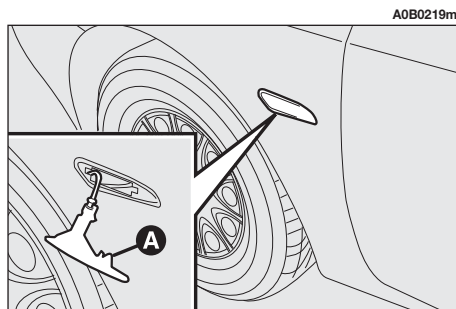
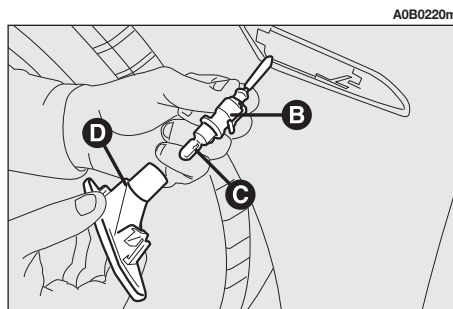

fig. 38
fig. 39
- Push the transparent cover towards the rear of the car to compress the tab (**A**-fig. 38). Release the front part and remove the unit.
- Turn the bulb holder counter-clockwise (**B**-fig. 39) and remove it from the transparent cover (**D**-fig. 39).
- Withdraw the bulb (**C**-fig. 39) which is of the pressure-fitted type and replace it.
- Insert the bulb holder (**B**-fig. 39) in the transparent cover (**D**-fig. 39) and position the unit ensuring that the clip clicks into place (**A**-fig. 38).